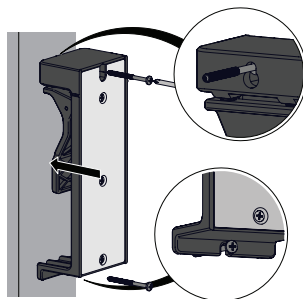

Figure 10
1. To attach the track clip to a vertical surface, first attach the top screw to the vertical surface, then hang the track clip onto the top screw. Secure the track clip by attaching the second screw to the bottom of the track clip. (Figure 10)